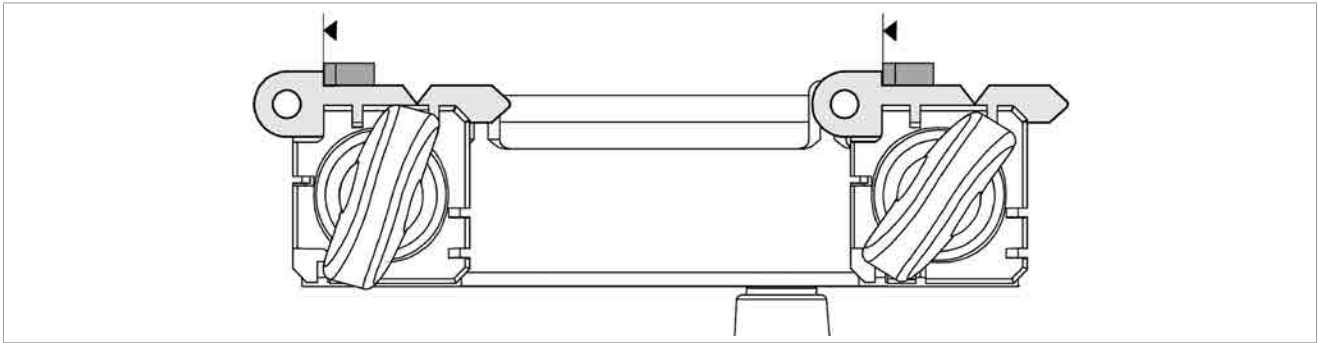

Fig.14
- 2) Place the adjustment keys (provided) on the clamps (Fig.14).
- 4) Turn the calibration rod towards the operator so that the gauges (Q1) into contact with the adjusting plates (Fig.14).